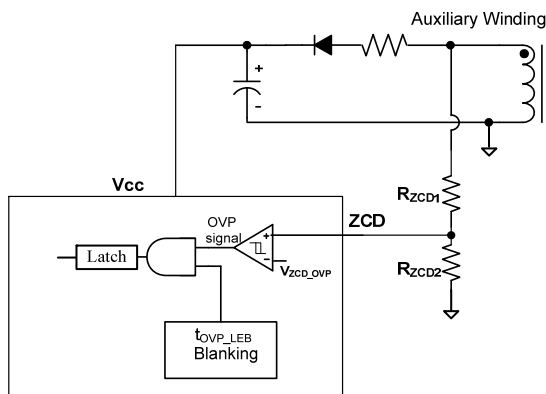

Figure 7—OVP sampling circuit
Output over-voltage protection (OVP) prevents the components from over-voltage damage. The voltage of the auxiliary winding positive plateau is proportional to the output voltage, so the OVP block monitors this auxiliary winding voltage to apply an OVP function (see Figure 7). Once ZCD voltage exceeds  $V_{ZCD\_OVP}$ , the OVP signal is triggered, the gate driver turns off, and the IC works in quiescent current mode. When the VCC voltage drops below the UVLO threshold, the IC shuts down and re-starts after VCC drops below UVLO. The output OVP set point is calculated with Equation (2):